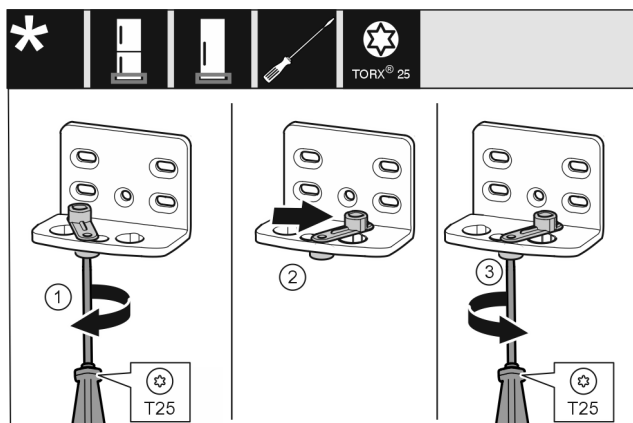

Fig. 17
- ▶ Loosen the screw Fig. 17 (1) with the screwdriver.
- ▶ Lift the door closing mechanism Fig. 17 (2) and turn it 90° to the right into the hole.
- ▶ Tighten the screw Fig. 17 (3) with the screwdriver.